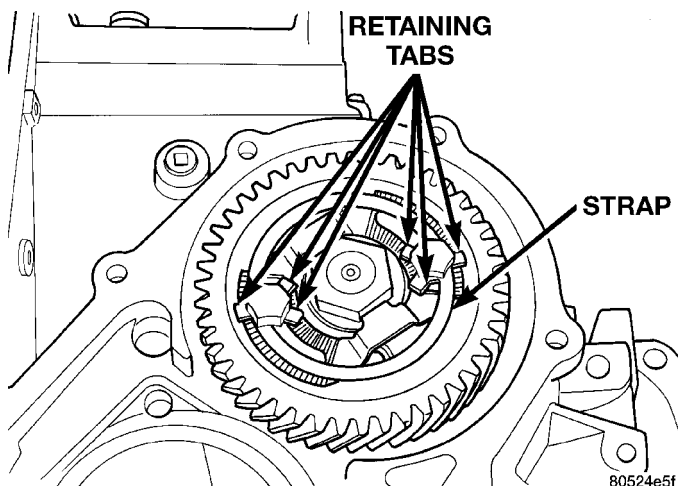

Fig. 153 Bend Strap Tabs Flat
(1) Using a punch, bend tabs on strap flat against output gear (Fig. 153).